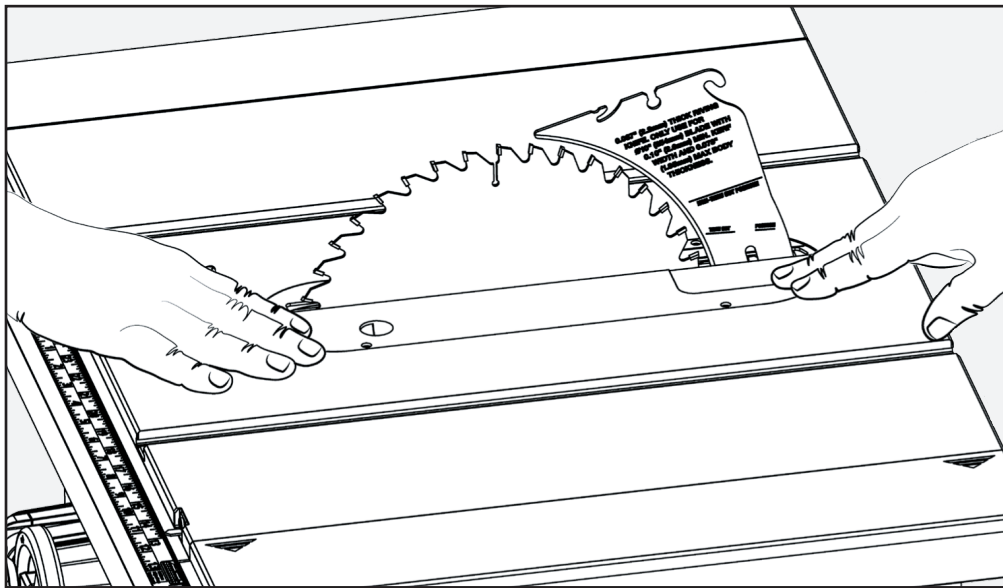

FIGURE 7
Level the throat plate to the table top using (4) flat head screws. See Figure 7 and 8. For more details about leveling throat plate, see page 27.